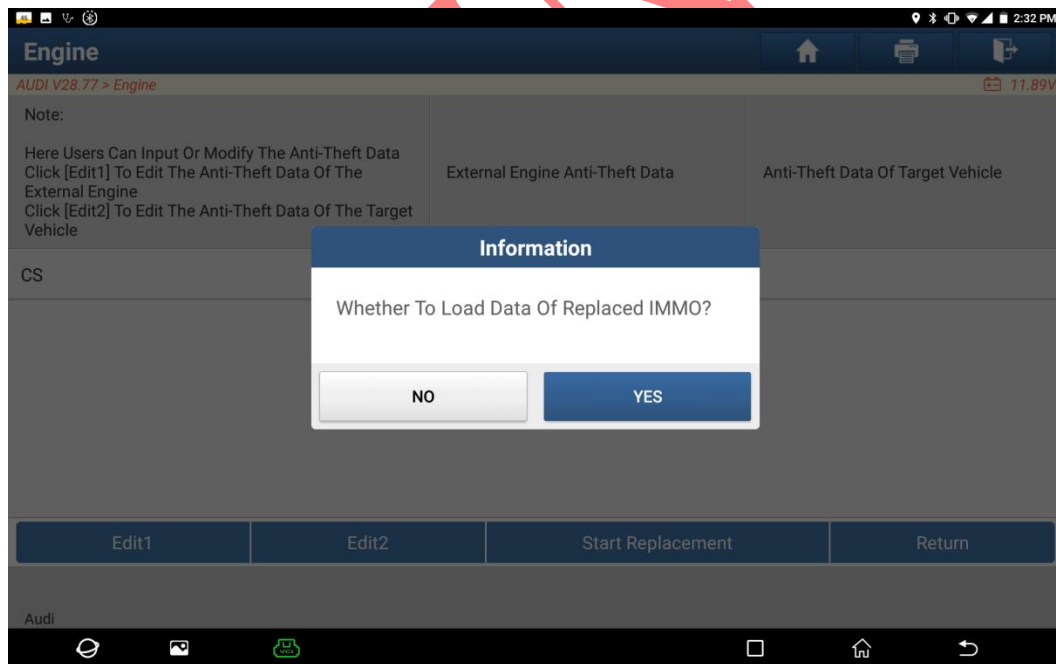

Figure 11
10. After entering the function, click **【Edit1】** to directly load the Anti-theft data parsed by previous BENCH mode, as shown in Figure 11.